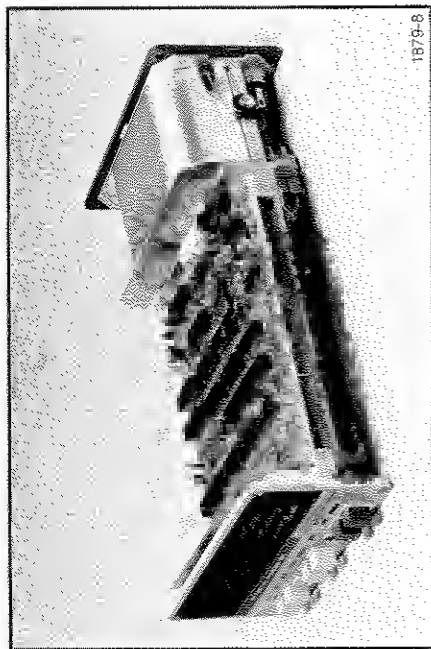

Fig. 11. Preliminary calibration set-up for checking J16 Power Supply and adjusting Internal DVM.
3. Connect the fully-charged Battery Pack or the AC Power Supply to the internal circuit boards. See Fig. 11.